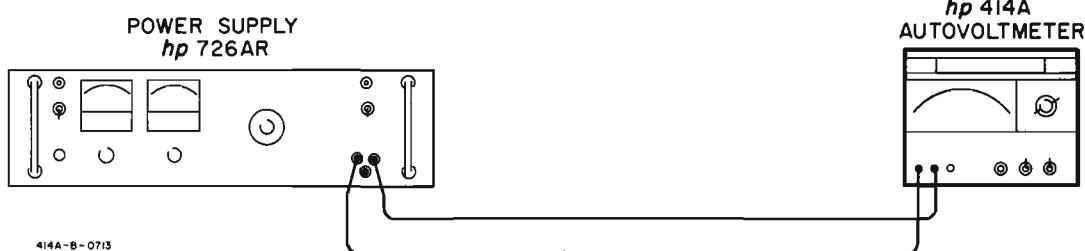

Figure 5-4. Autoranging Check and Adjustment
- Apply approximately 3 volts from power supply to VDC and COM probes as shown in Figure 5-4.
- Apply an overload voltage of 8 volts to VDC and COM probes as shown in Figure 5-4. This should cause the 414A to uprange to the 1500 v range.
- c. Apply 3 mv from power supply to VDC and COM probes as in Figure 5-4, and note exact meter reading on 414A.
- b. Turn on 414A and connect VDC and COM probes to power supply in reverse polarity to that shown in Figure 5-4.
- a. Reverse VDC and COM probes to obtain positive input polarity as shown in Figure 5-4, and adjust power supply output to a value on the 414A 5 v range.